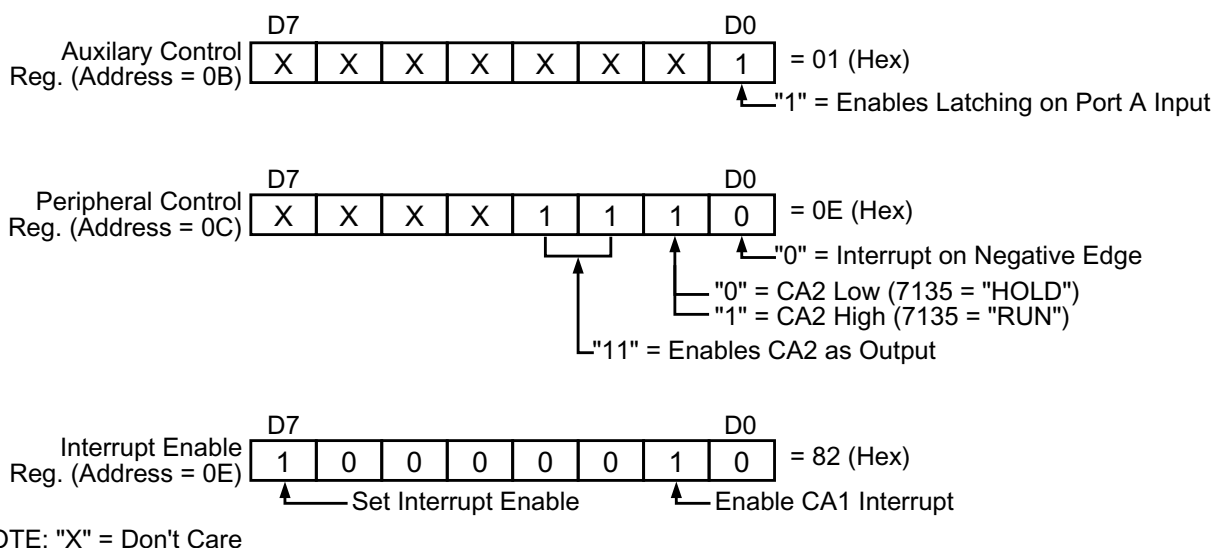

FIGURE 5: 6522 I/O port control register functions.
The 6522 I/O port must be programmed before data can be received from the TC7135. The code in Figure 3, beginning at location "SET-UP," writes data into the 6522's control registers to enable the following functions (1) Port A will be latched input, controlled by input of CA1; (2) CA2 will be an output, programmed high (TC7135 in "RUN" mode); (3) Interrupt enabled on the falling edge of CA1. The function of data written to each 6522 register is defined in Figure 5.